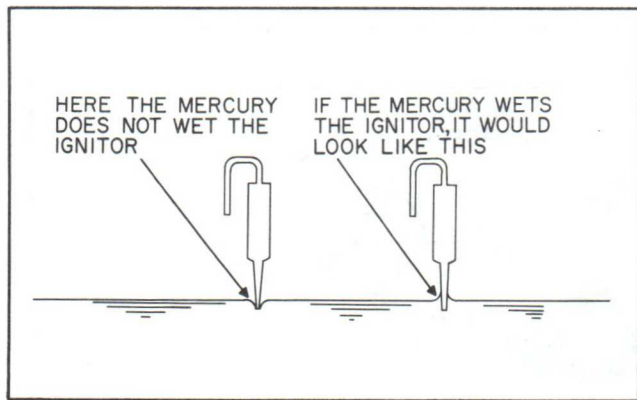

Figure 4. Ignitor in the Mercury Pool
(1) As stated previously, the ignitron has five basic parts - cathode, anode, envelope, terminals, and a starting electrode called an ignitor.
(2) The difference in the operation of ignitron tubes as compared with other tubes is in the method of liberating electrons from the cathode and thereby initiating current flow.
(3) The cathode of the ignitron is a pool of mercury, instead of the conventional coated metal found in most other electronic tubes.
(4) The electrons are liberated from the mercury pool by forming or striking an arc between the ignitor and the mercury. This differs from most electronic tubes in which the electrons are liberated by heating the coated-metal cathode to a sufficiently high temperature to free the electrons.
(5) As shown in figure 4, the tip of the ignitor is immersed in a mercury pool. Due to the very